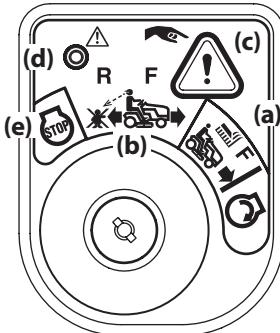

Figure 3-1
- Turn the key from the NORMAL MOWING ⚡ (a) position to the REVERSE CAUTION MODE ⚡ (b) position of the ignition module. See Figure 3-1.
- Press the REVERSE PUSH BUTTON ⚡ (c) at the top, right corner of the ignition module. The red indicator light (d) at the top, left corner of the ignition module will be ON while activated. See Figure 3-1.